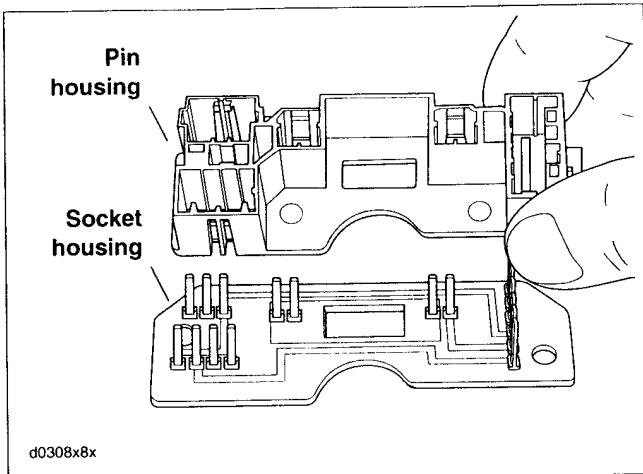

Figure 8-38. Pin Housing and Circuit Board
4. See Figure 8-38. Remove screw, pin housing and circuit board from base.